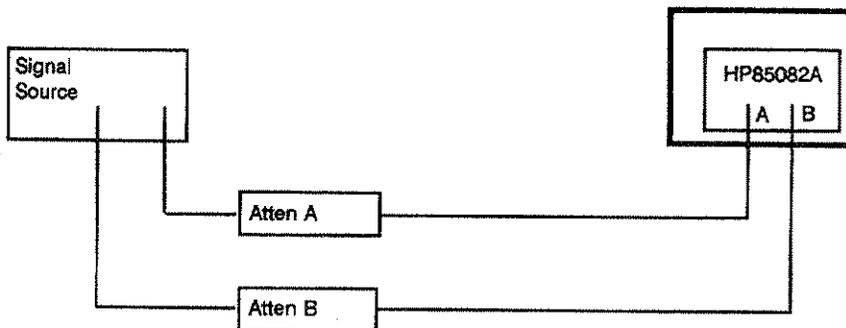

Figure 4-8. Voltage Ratio Accuracy vs Level Test Setup
1. Configure the equipment as shown in Figure 4-8.